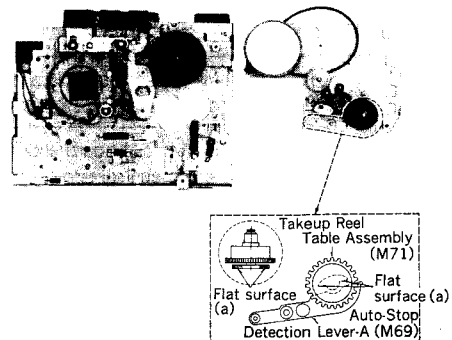

**Fig. 7**
1. Remove the pause lock spring (M101) (shown in fig. 7).
3. The removal of screw (i) for mounting the motor allows the flywheel belt (M93) to come off (shown in fig. 7).